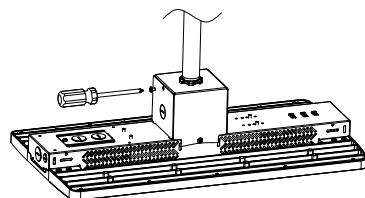

Figure 5
- Step 4. Lock side brackets with screw driver (Figure 5).